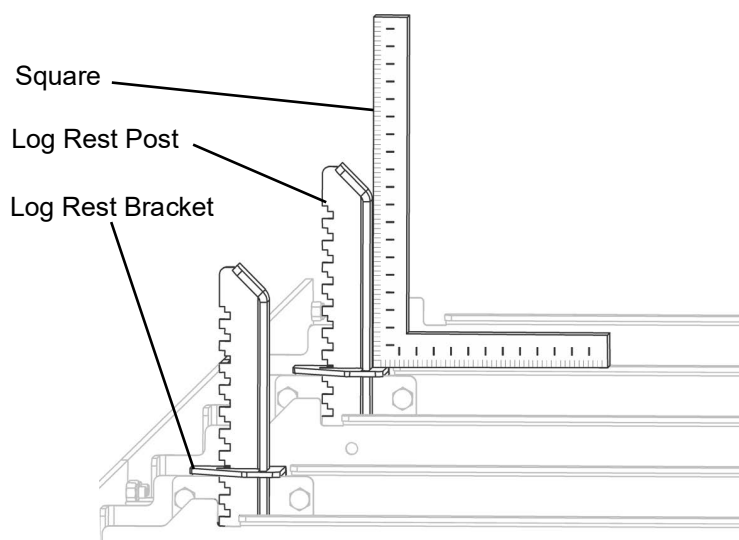

FIG. 3-7
4. When the bed is leveled, square up the log rest posts. Tighten the log rest bracket screws. See FIG. 3-7.